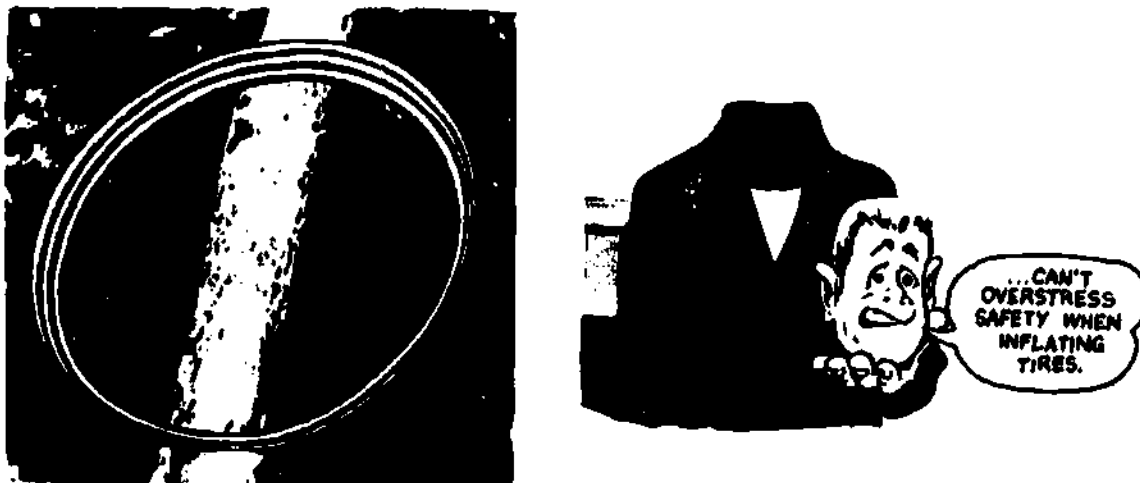

Fig 1-22. Improperly seated ring blown on tree.
a. **Safety.** Certain safety rules must be carried out if injury is to be avoided. We wouldn't abuse or handle roughly a cylinder of oxygen used in welding operations, knowing what would occur if the valve should get broken with all that pressure in the cylinder. A tire could be considered as the same thing. It has terrific pressure inside and is mounted on steel and certain parts are capable of flying off. Always deflate the tire by slowly and carefully removing the valve core. Always use the proper tools to avoid burring the rim, springing lock rings out of shape, or damaging the tire or tube. Always inspect the rim for cracks, burrs, and broken welds. Inspect all locking type devices to insure they are not sprung and that the part of the lock that engages in the rim has not been damaged. This is a particularly dangerous item as you can see in figure 1-22.